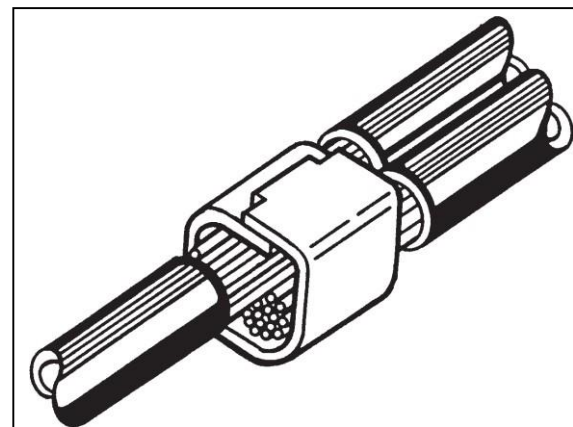

Figure 31
5. Close the clip securely by hand crimping, using a pair of pliers (Figure 31).